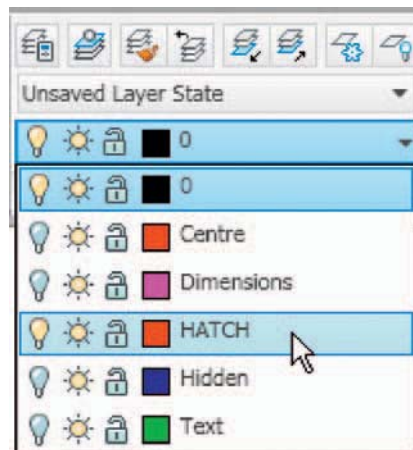

Fig. 8.14 Seventh example – the layers setup for the advanced hatch example
Seventh example – advanced hatching (Fig. 8.14)
1. From the **Home/Layers** panel open the **Layer** list with a *click* on the arrow to the right of the **Layer Control** field (Fig. 8.14).
2. Note the extra added layer **HATCH** colour red (Fig. 8.14).